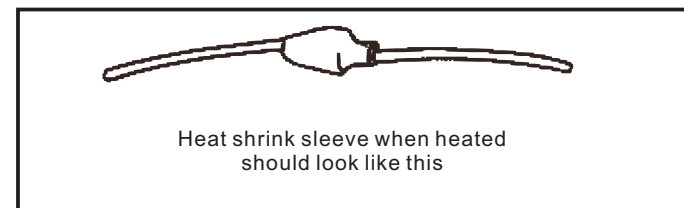

Figure 5
8. When properly applied, the heat shrink sleeve should look like Figure 5. Mount the terminal block to the cooktop with the screw. Lower the cooktop and install the reflector pan and surface unit. Reconnect power or plug in range.